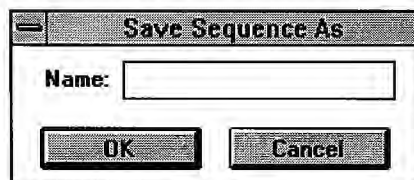

Figure 8-27 Save Sequence Dialog Box
1. Choose Save As... from the Sequence menu. The Save Sequence As dialog box (Fig. 8-27) appears.